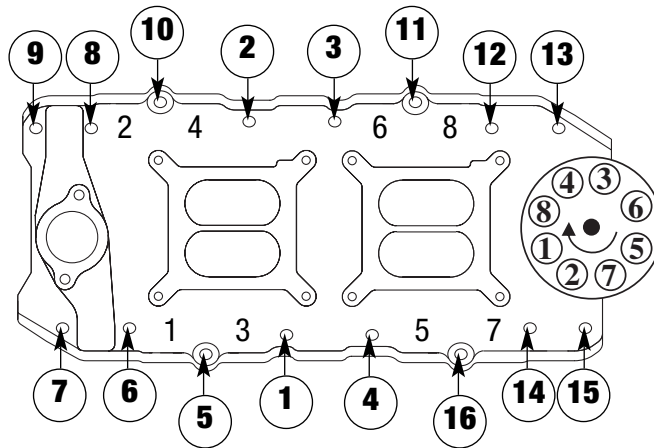

Figure 2 - Intake Manifold Tightening Sequence
WARNING! There is no gasket support for the manifold under the four bolt holes which are numbered #5, #10, #11, and #16 in Figure 2. Damage to the manifold will occur if these four bolts are over-tightened. Hand tighten these bolts with a 6" box-end wrench. DO NOT use a torque wrench.
Torque the remaining manifold bolts in two steps by the sequence shown in **Figure 2** to 25 ft./lbs.
6. See **Figure 2** for Firing Order and Cylinder Numbering.